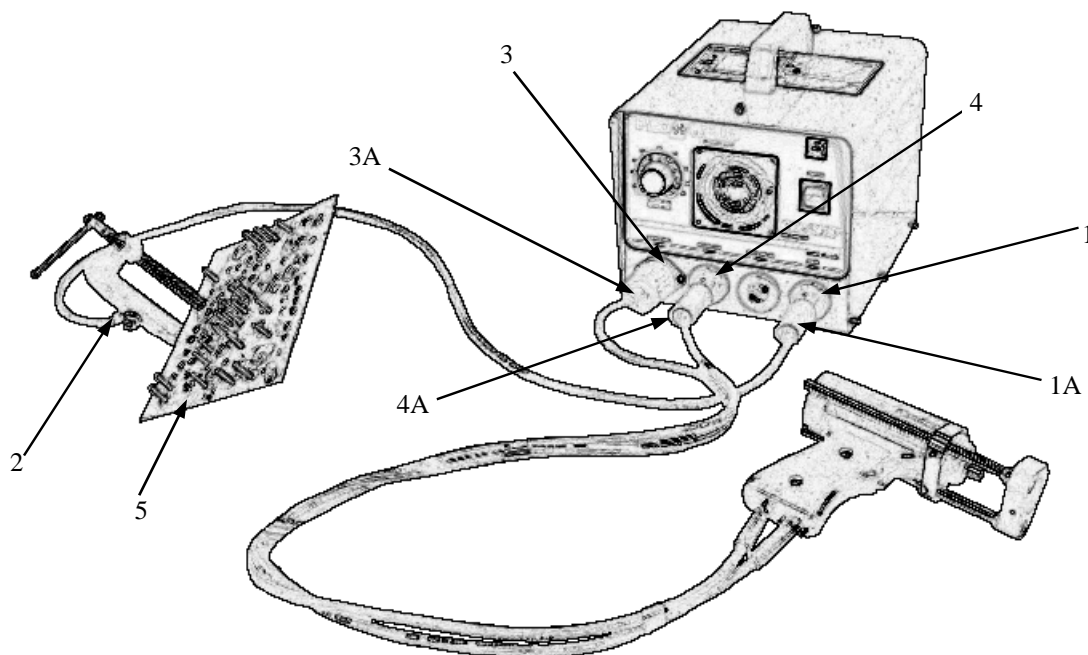

Figure 3 Reverse Polarity Hook-Up
9.2 Reverse Polarity (Recommended for brass or galvanized) (see Figure 3)
A. Connect ground cable connector (1A) into camlok (4). The camlok should be connected into the receptacle marked GUN. Twist until it locks. Attach “C” clamp (2) to the workpiece (5) (CLEANED AREA).
B. Connect the gun control cable (3A) into the female receptacle (3).
C. Connect the gun weld cable (4A) into the receptacle marked GROUND (1). Twist clockwise until it locks.